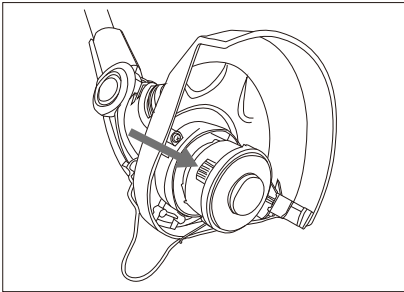

Fig 19
1. Press together both locking device tabs on the spool cover and remove the cover (Fig 19).